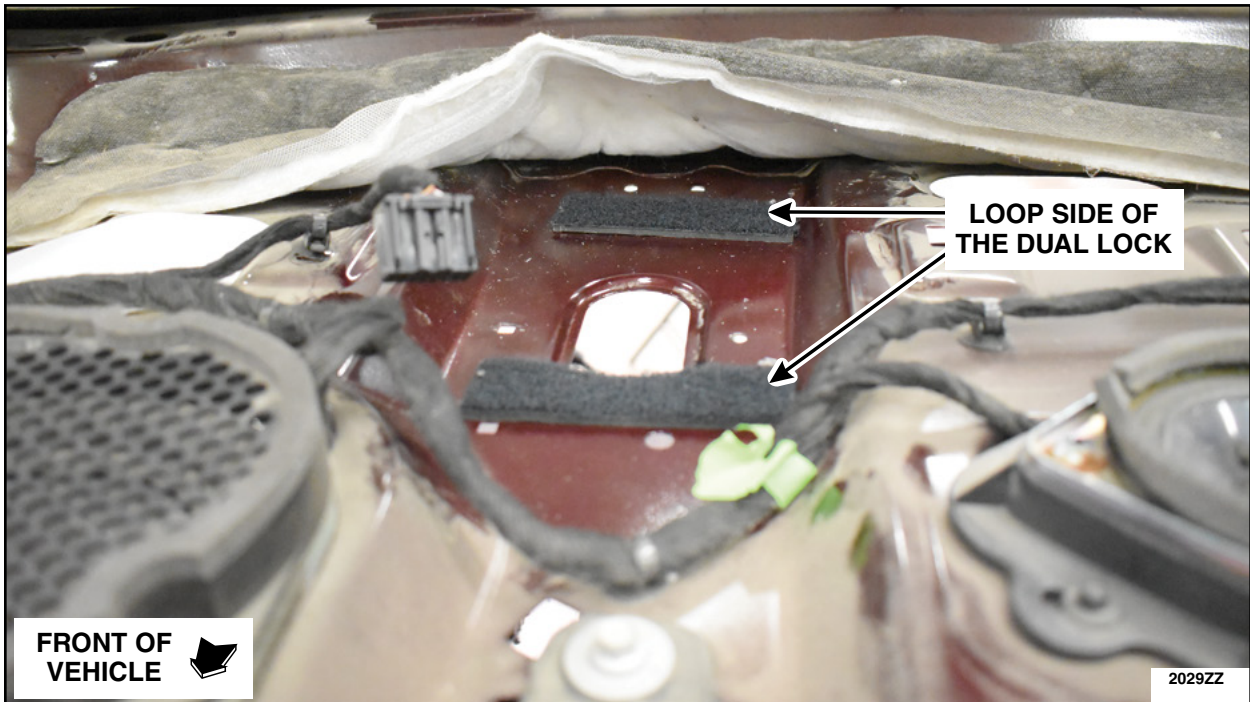

FIGURE 4
5. Apply the loop strips. See Figure 4.